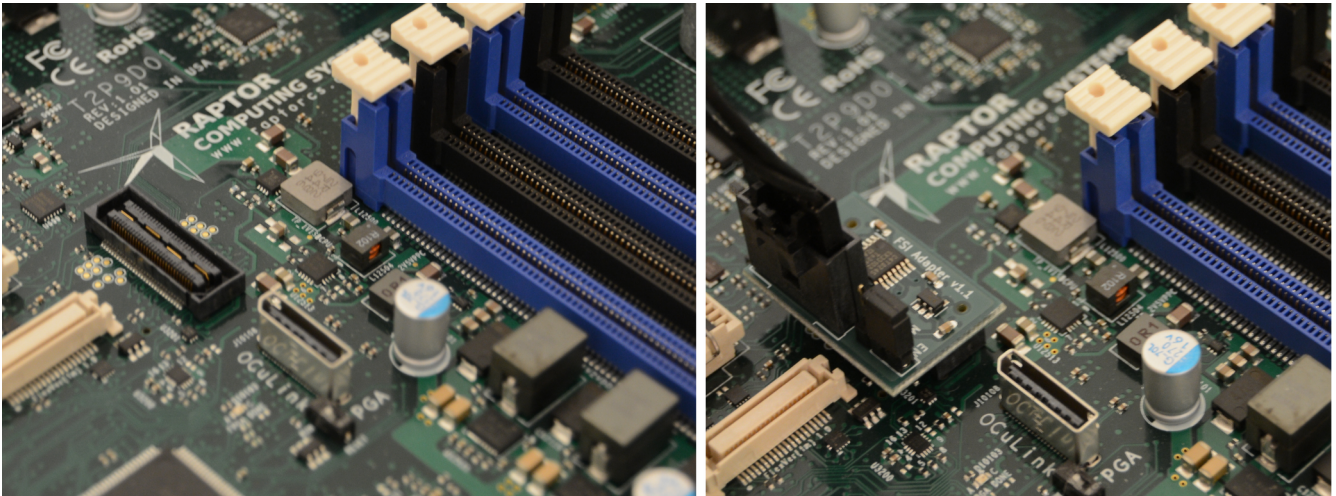

Figure 8: FSI Adapter Installation
- Press the FSI adapter into the CPU debug connector on the Talos II host system using gentle vertical pressure, as shown in Figure 8.